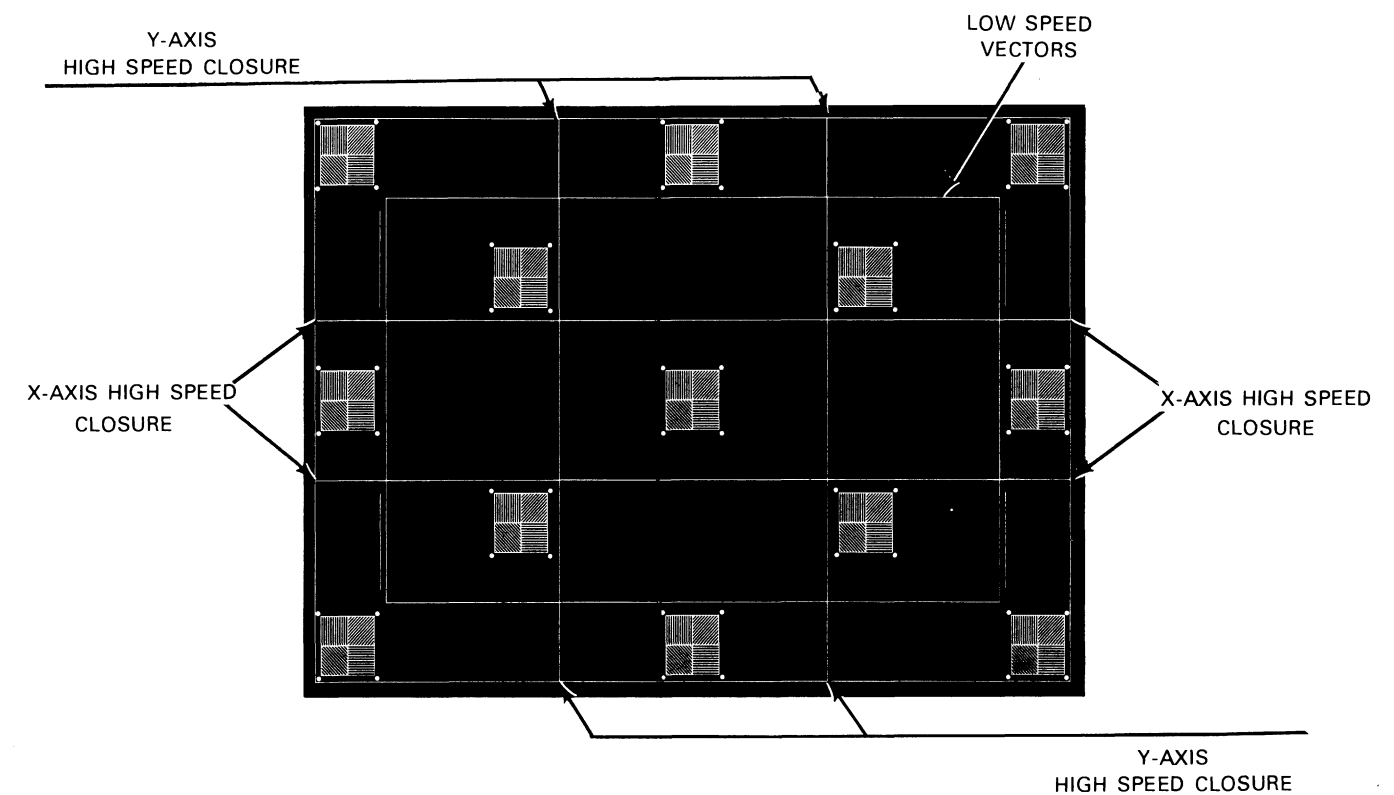

Figure 5-14. X-Y Vector Closure
- b. Adjust Y-Ramp Offset (A1R39) and Y-Stroke Length (A1R48) for best overall vector closure between low speed vector and high speed vectors. Try to keep the low speed box corners closed while adjusting the high speed as close as possible. Refer to figure 5-14.
- c. Adjust X-Ramp Offset (A1R11) and X-Stroke Length (A1R20) for best overall closure between the low speed vectors and the high speed vectors. Try to keep the low speed corners closed while bringing the high speed as close as possible. Refer to figure 5-14.